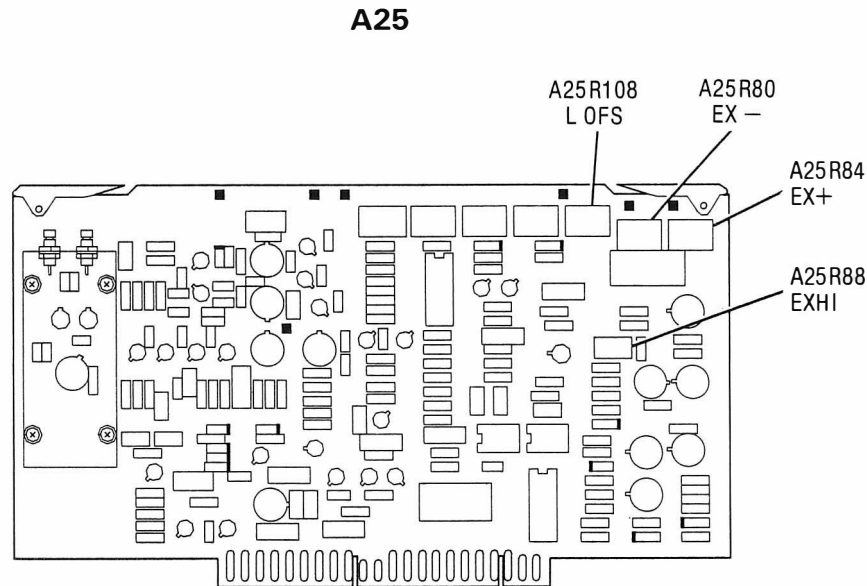

Figure 5-62. Flatness and External Leveling Adjustments Location
30. Access Calibration Constant Number 13 by entering the following: **[SHIFT] [GHz] [1] [3] [Hz] [SHIFT] [MHz] [1] [2] [Hz] [SHIFT] [kHz] [2] [2] [Hz]**. Adjust Calibration Constant Number 13 for a power meter indication of P. Then adjust A25R108 LOFS (Figure 5-62) for a 0 dBm power meter indication.